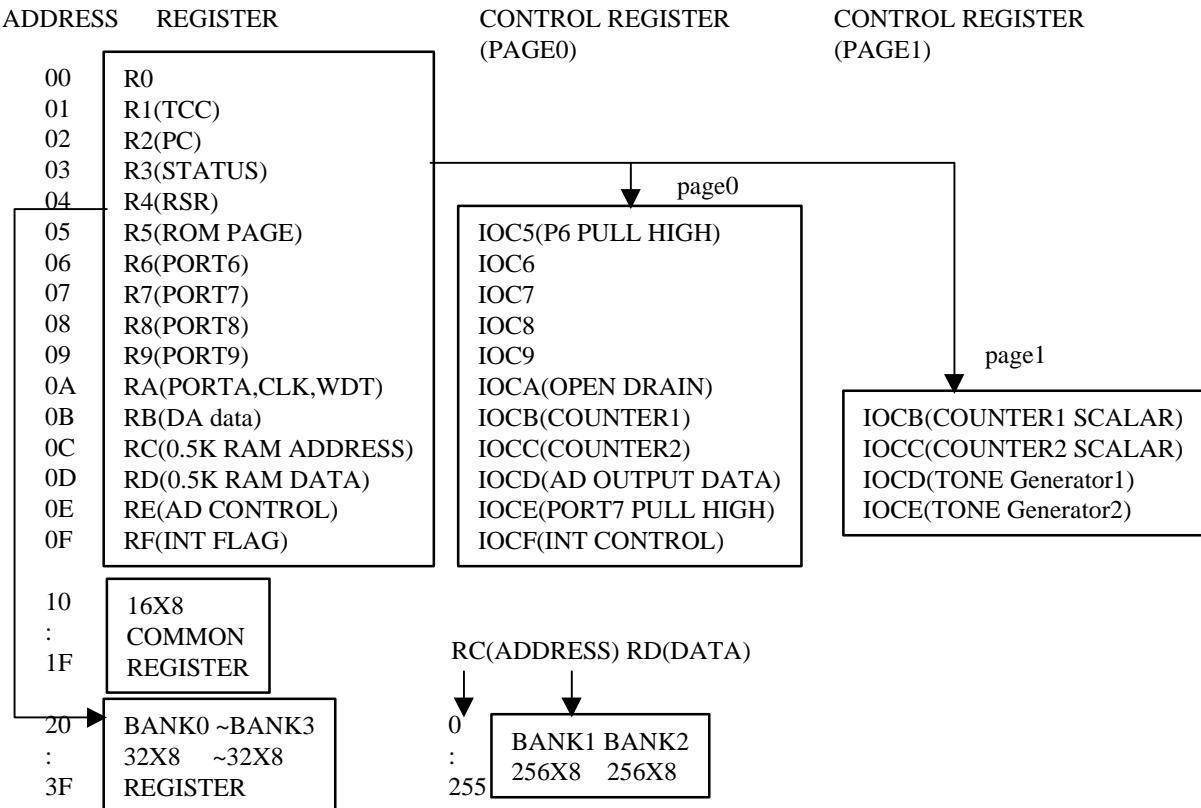

Fig.4 Data memory configuration
* See the configuration of the data memory in Fig. 4.